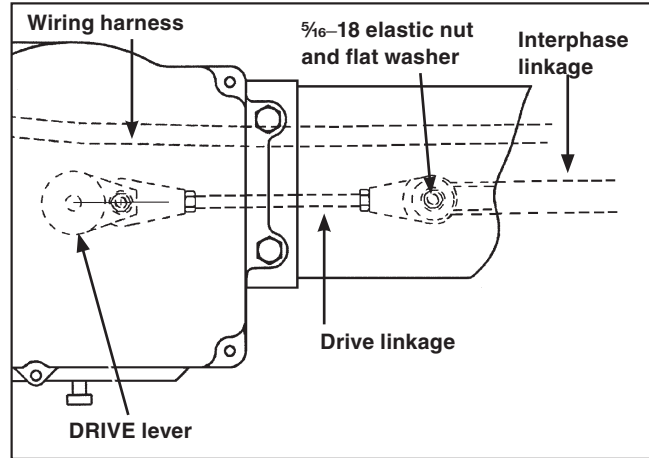

Figure 3. Disconnecting the interphase linkage.
STEP 3. Remove and discard the $\frac{5}{16}$ -18 elastic nut and flat washer that connects the drive linkage to the connecting stud on the interphase linkage. See Figure 3.